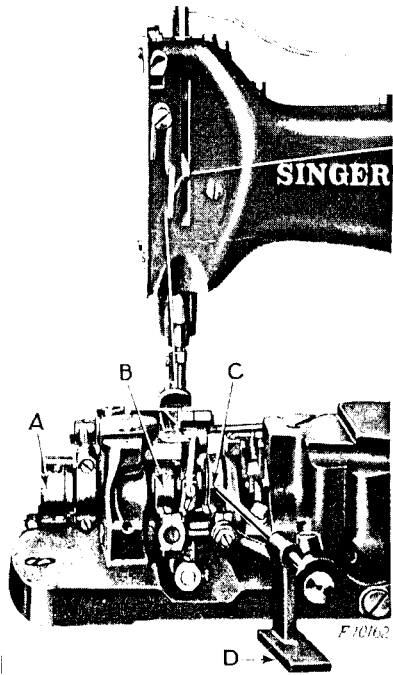

FIG. 10. MACHINE CORRECTLY TIMED
Remove the machine from the iron base and place it on any level surface. Turn the balance wheel **over from you** until the needle bar has reached its highest point and has descended $\frac{1}{2}$ inch on Machine 157-1, and $1\frac{7}{32}$ inches on Machine 157-2. Then place the gauge 130905 (D), Fig. 10), which is furnished for the purpose, on the table to locate the timing marks on the three eccentrics all in exact alignment with each other, as shown at A, B and C, in Fig. 10. When the machine is correctly timed with the needle bar down $\frac{1}{2}$ inch from its highest point on Machine 157-1, and $1\frac{7}{32}$ inches on Machine 157-2, the three timing marks (A, B and C) will be at the centre of the rotary shaft, which is $2\frac{3}{16}$ inches from the bottom of the base of the machine.
The sidewise motion of the looper is controlled by the eccentric (C, Fig. 10). For less sidewise motion, loosen the two set screws in this eccentric and turn the eccentric over toward you. For more sidewise motion, turn the eccentric over from you. When the desired amount of sidewise motion of the looper is obtained, securely tighten the two set screws.